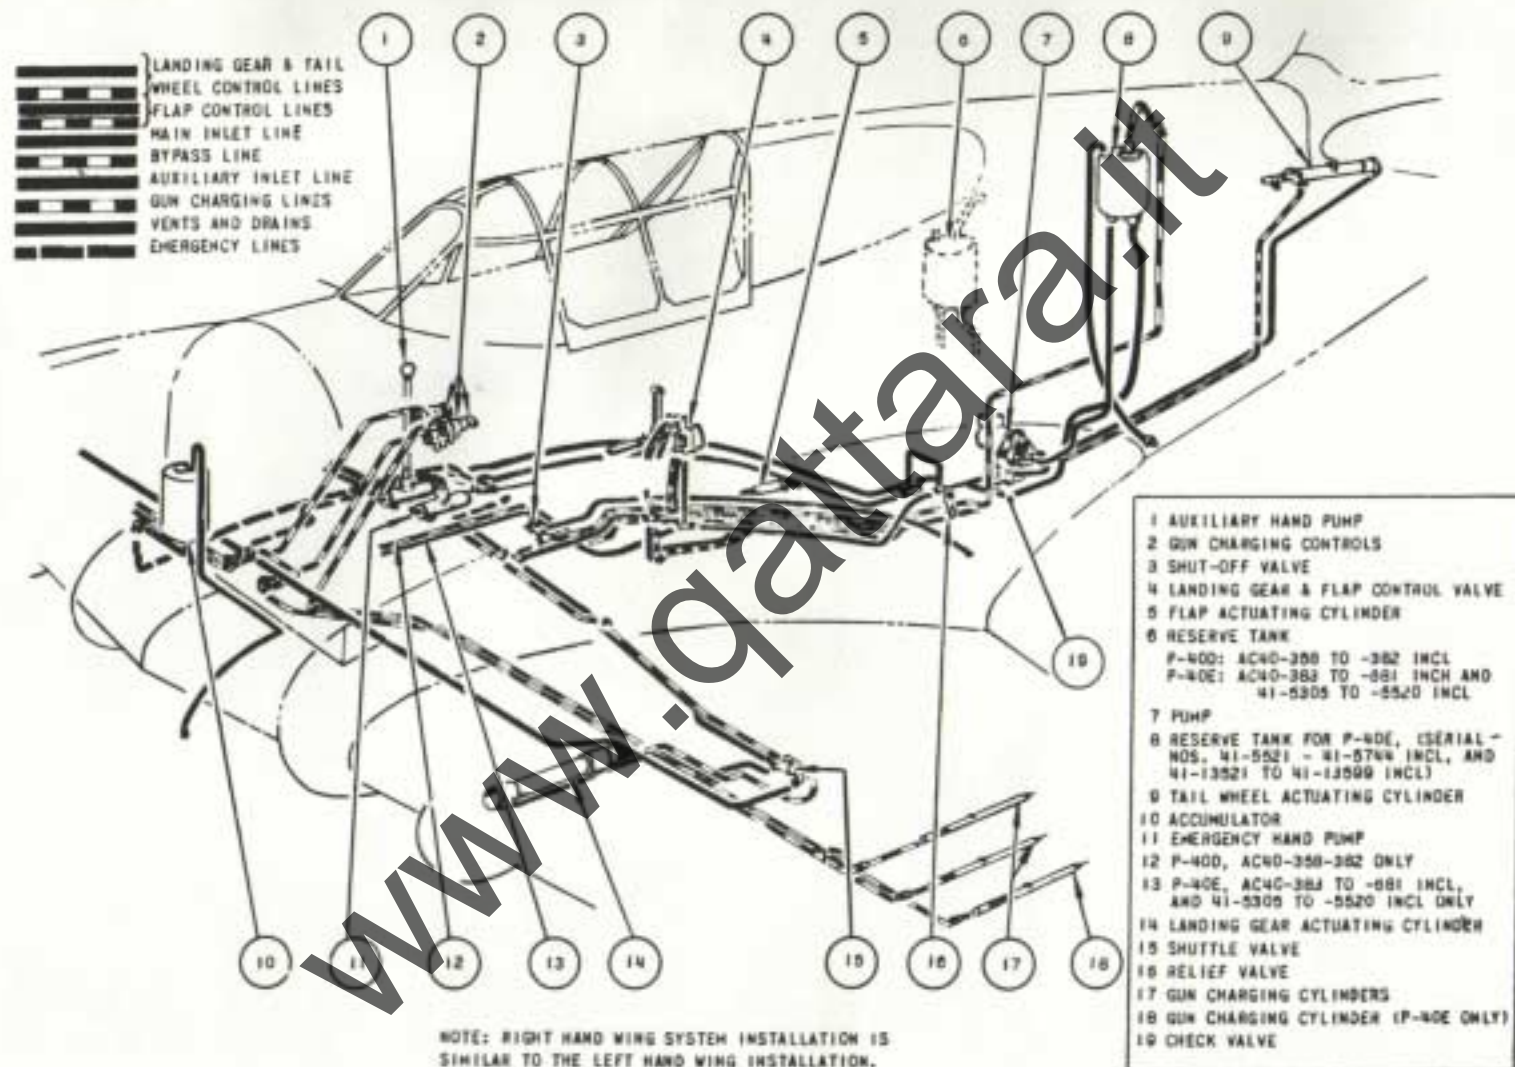

Figure 7 - Hydraulic System Diagram
i. Hydraulic System. - See figure 7.